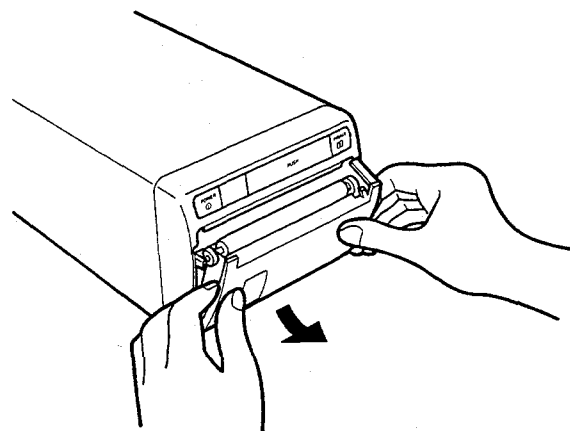

Fig.1-3
4. Raise the PAPER HOLDER slightly and remove the DOOR. (Fig.1-3)